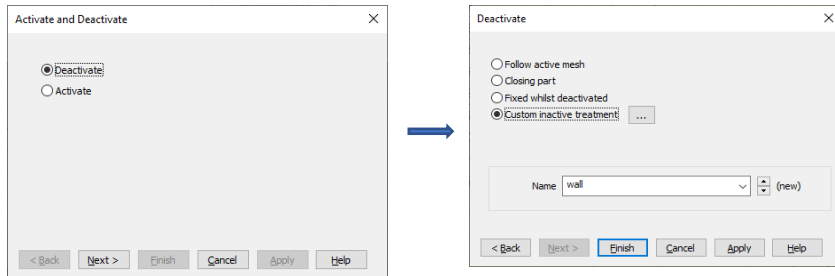

Figure 38: Definition of deactivation attribute
- Select **Attributes > Activate and deactivate ...**. Click on **Next** and enter a name of **wall and anchors**. Then select the **Custom inactive treatment** radio button and click on the ellipsis button ... (figure 38)